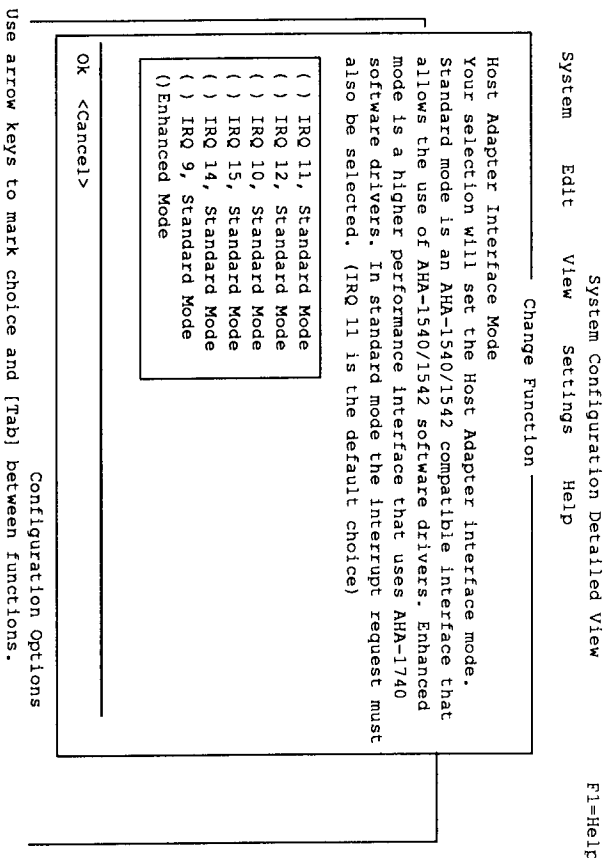

Figure 2. Interface Mode and Interrupt Selection Display
- 1) Select the host adapter interface. There are two available. Standard allows software written for the AHA-1540 or AHA-1640 families to run the AHA-1740/1744. Enhanced Mode allows a higher-performance interface to be used. If Standard Mode is selected, the host adapter interrupt level must also be selected (see Figure 2).